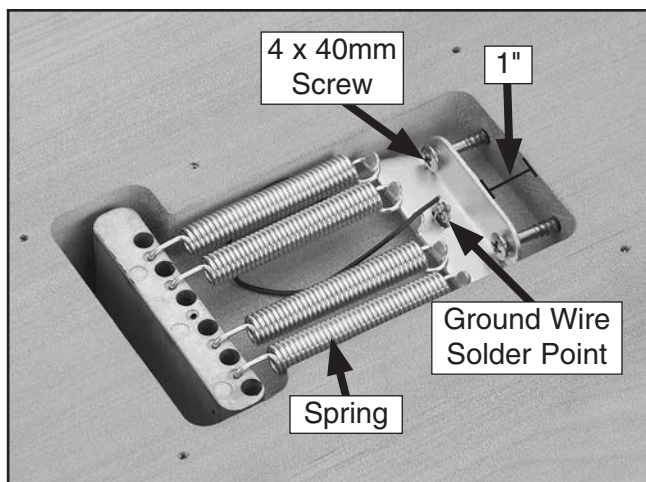

Figure 23. Correct spring placement.
4. Secure the spring hanger to the guitar body with two 4 x 40mm screws as shown in **Figure 23**. Tighten the screws until the spring hanger is 1" from the wall of the cavity.
6. Stretch the four springs from the spring hanger to the tremolo bridge as shown in **Figure 23**.